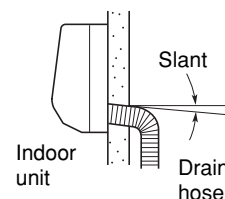
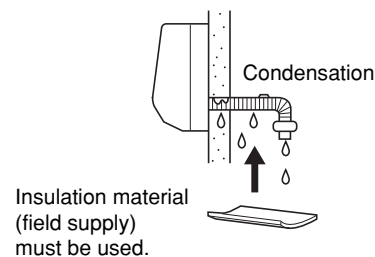

Fig. 3-37
Fig. 3-38
- (1) The drain hose should be slanted downward on the outdoor side. (Fig. 3-37)
- (2) Never form a trap in the course of the hose.
- (3) If the drain hose will run in the room, insulate* the hose so that chilled condensation will not damage furniture or floors. (Fig. 3-38)